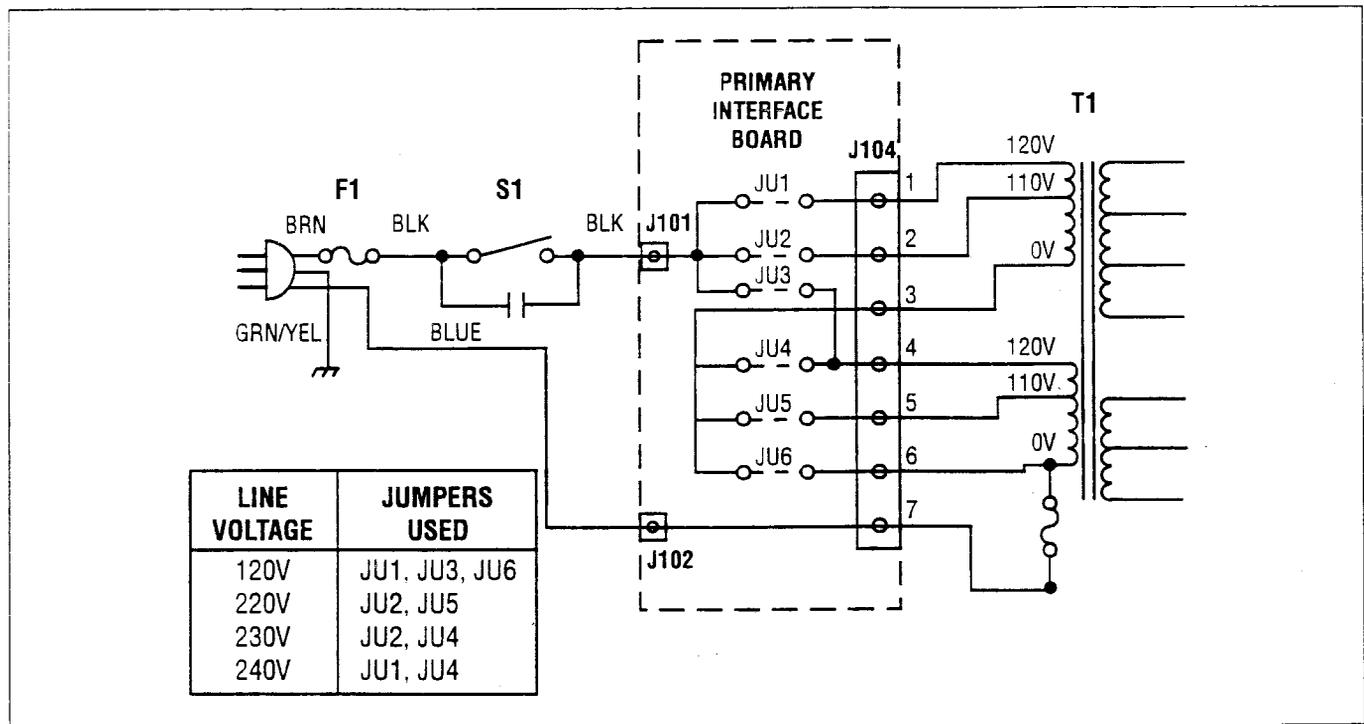

Figure 10. Line Voltage Conversion
The primary winding of the power transformer is tapped to permit operation from 120, 220, 230, or 240 VAC, 50/60 Hz line voltage. Conversion from one line voltage to another is done by a simple wiring change as shown in Fig. 10.
3. Rewire the jumper wires to the desired line voltage as shown in Fig. 10.